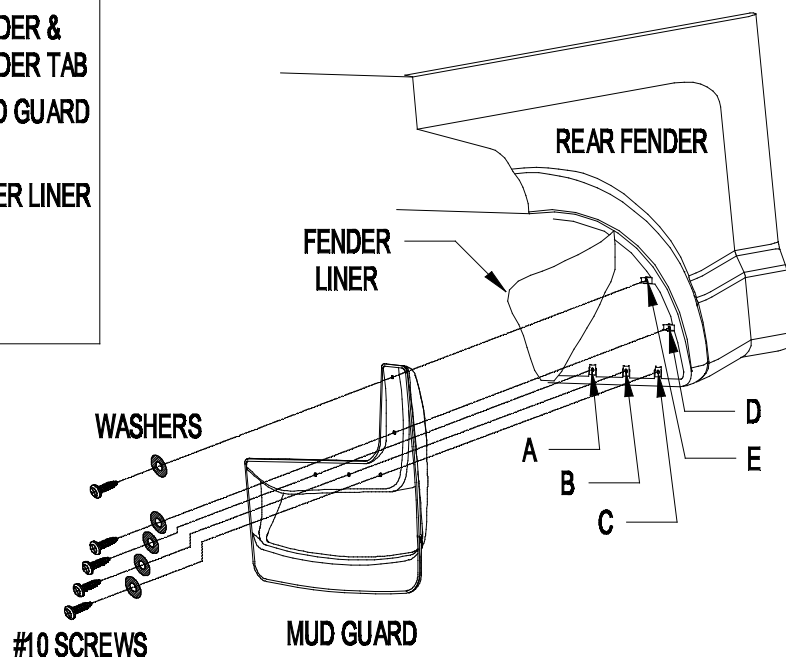

Figure 1
2. Remove existing plastic fasteners from locations A, C, D, and E by cutting off the heads of the fasteners and pushing the remaining piece through the fender tab hole (Figure 1).
4. Pull back fender liner to expose fender tabs (Figure 1 and 3).
6. Place mud guard between fender and fender liner and install a #10 screw and washer through fender liner, mud guard, U-clip and fender tab at locations A, B, C, D, and E (Figure 1 and 2), check fit and alignment before tightening.